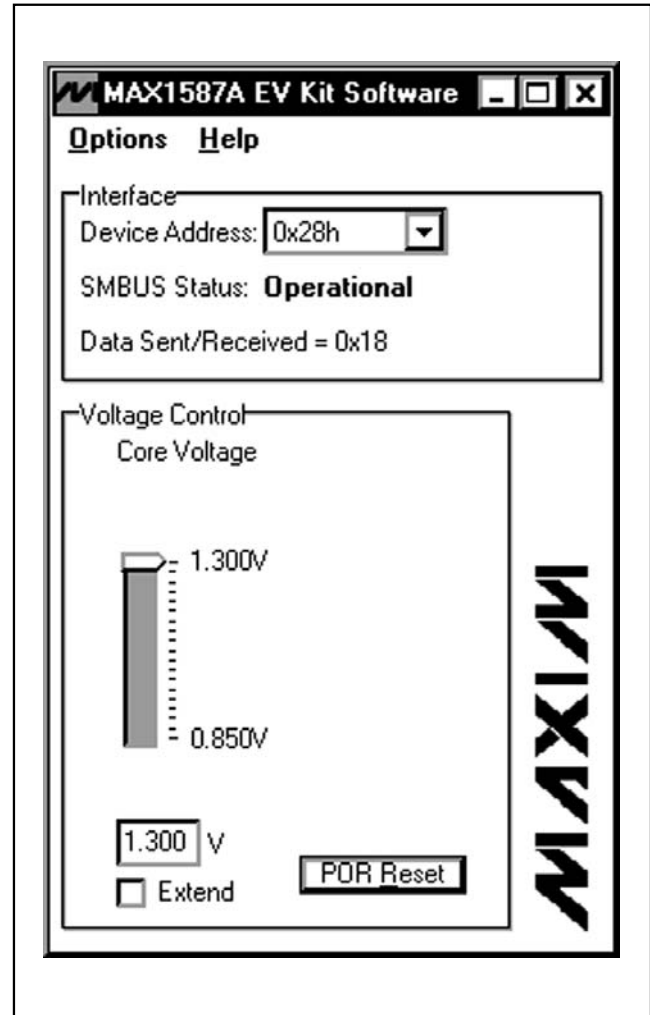

Figure 1. MAX1587A EV Kit Software Main Window
- 13) Start the MAX1587A EV kit software by opening its icon in the **Start** menu. The GUI main window appears, as shown in Figure 1.
The user interface (shown in Figure 1) is easy to operate; use the mouse, or press the Tab key to navigate with the arrow keys. Each of the buttons corresponds to bits in the command and configuration bytes. By clicking on them, the correct SMBus write operation is generated to update the internal registers of the MAX1587A. The **Interface** box indicates the current **Device Address**, and the **Data Sent/Received** (the MAX1587A EV kit software only sends) for the last read/write operation. This data is used to confirm proper device operation.